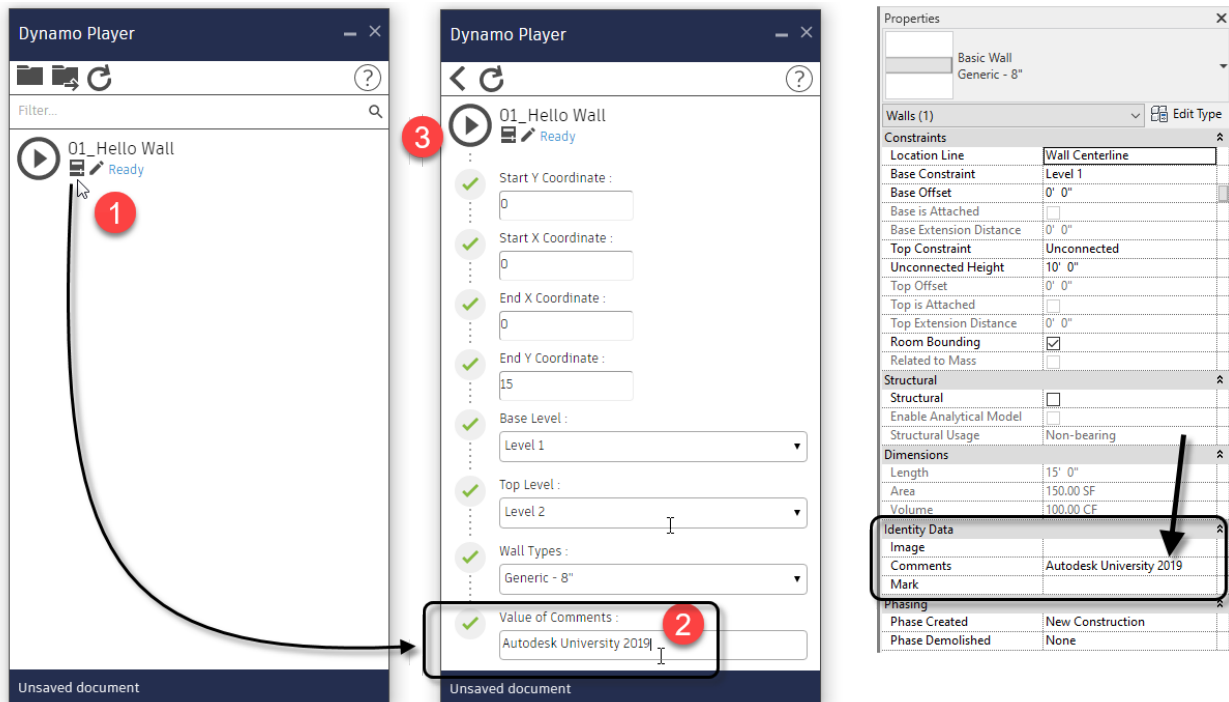

FIGURE 6
1. Click the small Edit inputs icon directly beneath the name of the script (see the left side of Figure 6).
3. Scroll back to the top if necessary, then click the run button to run the script, again. Select the wall and check its Properties (see the right side of Figure 6).